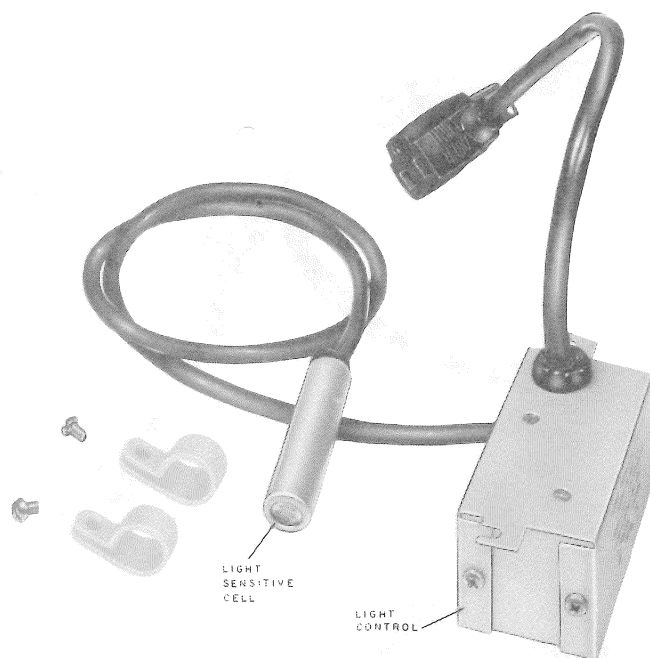

Fig. 4—KS-19261, List 4 Light Control Unit
2.06 ♦ The KS-19261, List 4 light control unit (Fig. 4) is used in the KS-20842 telephone mounting when equipped with a List 31, 32, 33, or 34 housing.